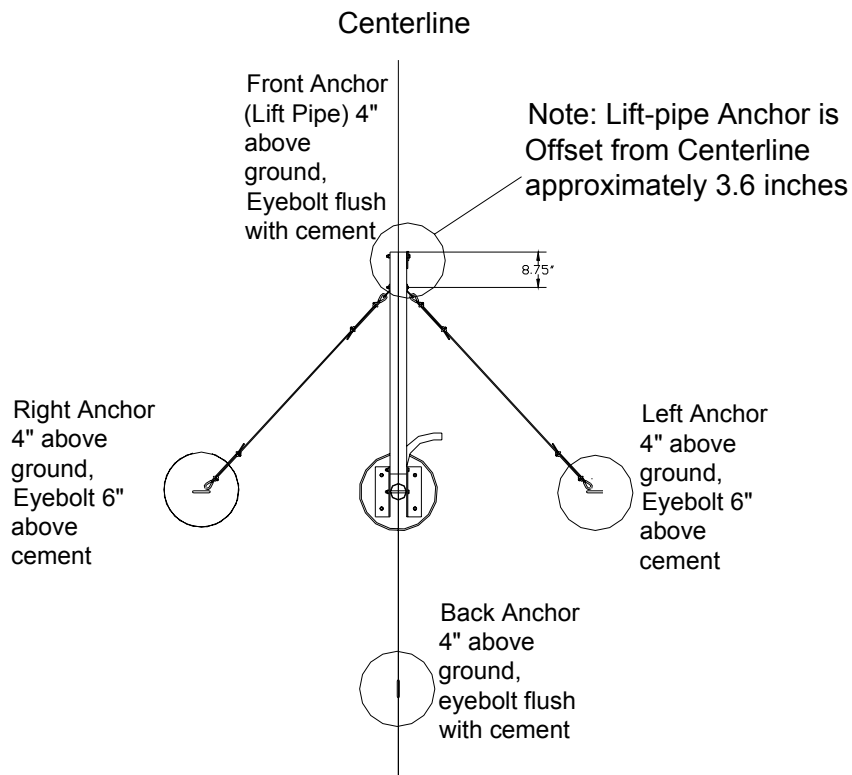
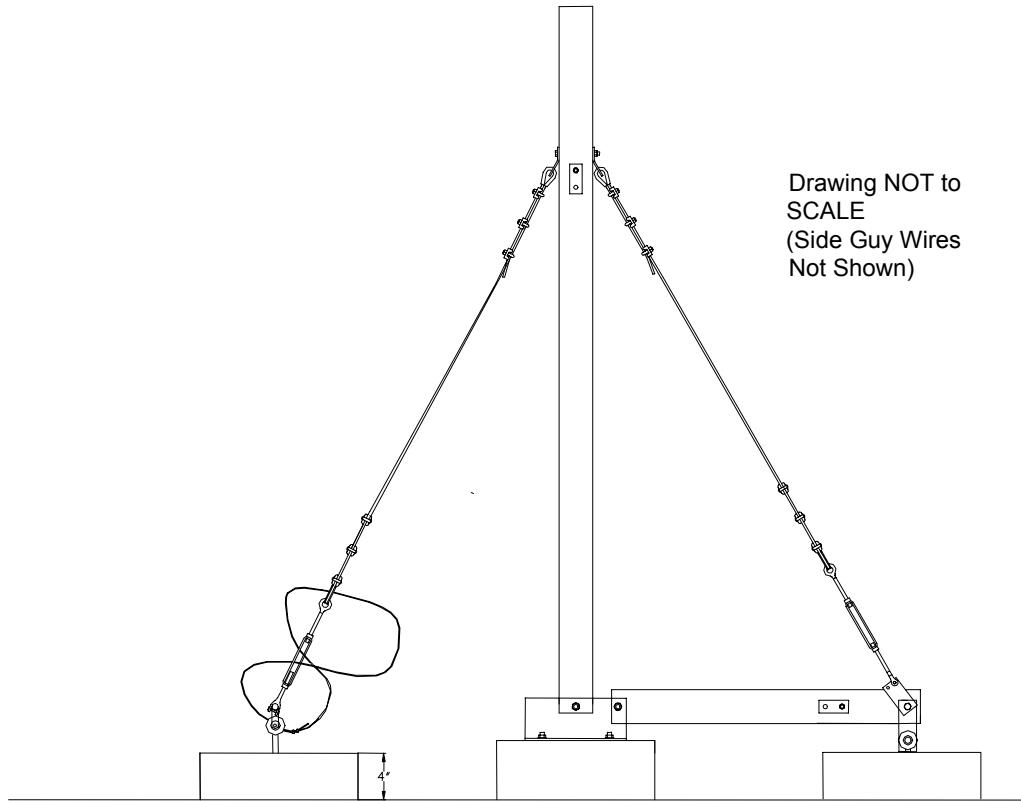

Figure 7: Birdseye View of Anchors and Lift-Pipe (Ginpole)
Figure 8: Tower Assembly Side View
This tower kit must only be erected on a calm day (no wind). The tower base and anchors should be laid out as described in Figure 2 and Figure 7. **The tower will be assembled laying on the ground and then tilted up into position.**
Carefully study *Figure 2 and Figure 7* to help you determine how much space you will need to raise your tower, which is pulled up from the lift anchor. Be especially aware that the concrete anchors are 4 inches above ground level. The lift anchor is slightly off-center (3-4 inches) in order to be assembled with the metal links. Keep both things in mind while you dig and build your concrete anchors.
The base anchor should be 6 inches above ground level. The four guy wire anchors should be 4 inches above ground level (see Figure 2). The two side anchors should have the center of the 3/4" x 12" eyebolt located **6 inches** above the top of the concrete anchor (see Figure 4.3). The backside anchor and the lift-pipe anchor should have the center of the 3/4" x 8" eyebolts **1.5 inches** above the concrete anchor (see Figure 4.2). The lift anchor has hardware and plates that connect it to the lift-pipe anchor (see Figure 4.1 and 4.2), and if you do not level the anchors appropriately you will have problems installing the kit. Also, the anchor for the gin pole is offset to the side between 3 and 4 inches to accommodate the linkage hardware (see Figure 7). See Figure 4.2 and Figure 8 for details.
- Attach the side anchor guy wires to the gin pole as shown in Figure 7.
Figures 7, 8, 9.1 and 9.2 show details on how the guy wires should be assembled. Make sure you measure the length of the guy wires correctly, otherwise they will not be the proper length and you will spend much time resetting them. Leave about 6 inches of slack in the wires to allow for any misalignment or unnoted elevation differences (the wires will be adjusted more precisely later).